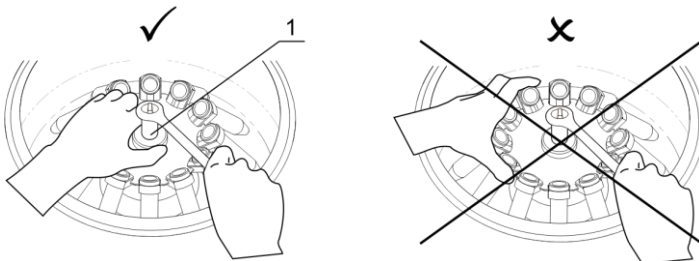

Figure 1. Rotor fixation
- Hold the rotor with one hand and, using the supplied wrench for rotor replacement (13 mm), turn the fixation nut (fig. 1/1) counter clockwise to release the rotor.
**Caution!** Do not hold the rotor by rings or adapters mounting when mounting and fixing it. Hold the rotor as shown on figure 1 (✓).
**Caution!** Check the rotor fixation every 10 days. Tighten the fixation nut if necessary, see figure 1.